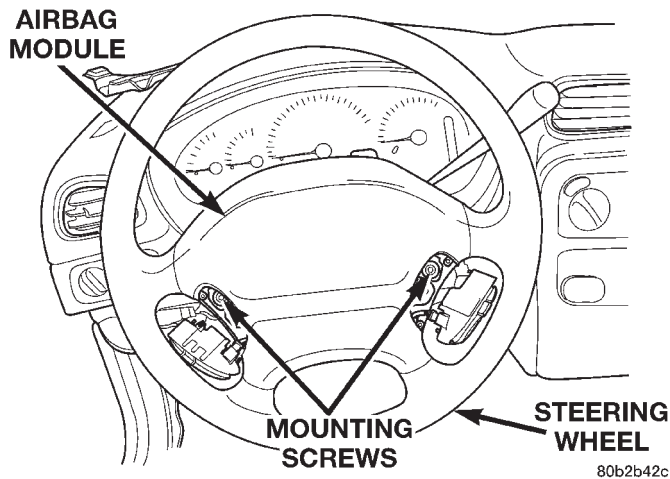

Fig. 10 Airbag Module Attaching Bolts
(10) Remove the 2 bolts (Fig. 10) attaching the airbag module to the steering wheel.